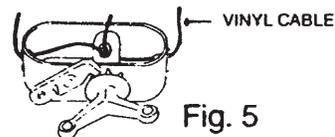

Fig. 5
4. For covers with a ratchet: insert one cable end through the hole at one end of the ratchet and into the center spindle. Turn the spindle a few times to secure the cable. Insert the other cable end through the other hole in the ratchet and pull the cable through the spindle as far as it will go. Turn the ratchet handle to tighten the cable. Make sure cable lies on the outside of the cover all around the pool except where it goes through the pairs of grommets. The cable must fit tightly against the wall of the pool to prevent wind from getting underneath the cover. To loosen or remove cable, press lever on top of ratchet and turn handle in the opposite direction (See Figure 5.)